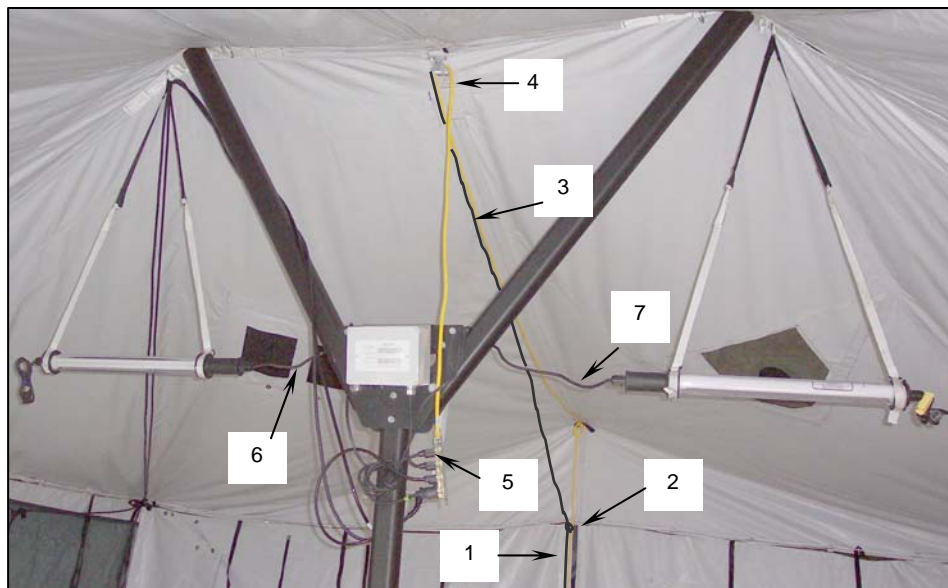

Figure 6. Connecting Electric Lights to Power Source.
- a. Using the step ladder, run the outlet end of the 100-ft extension cord (**Figure 6, Item 1**) up the tent wall opposite the tent center pole and secure with a tent strap (**Figure 6, Item 2**).
- b. Run the outlet end of the 100-ft extension cord across the tent ceiling (**Figure 6, Item 3**) and through the strap buckles at the top of the tent (**Figure 6, Item 4**).
- c. Suspend the outlet end of the extension cord (**Figure 6, Item 5**) next to the "Y" of the tent center pole.
- d. Plug the power cords for both lights (**Figure 6, Item 6**) and (**Figure 6, Item 7**) into the outlets (**Figure 6, Item 5**).